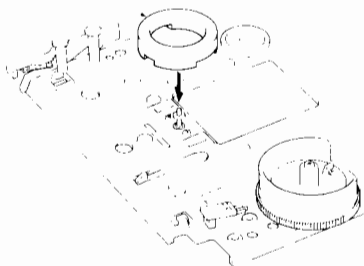

Fig. 6
- a. Install the height adjustment gauge as shown in Fig. 6.